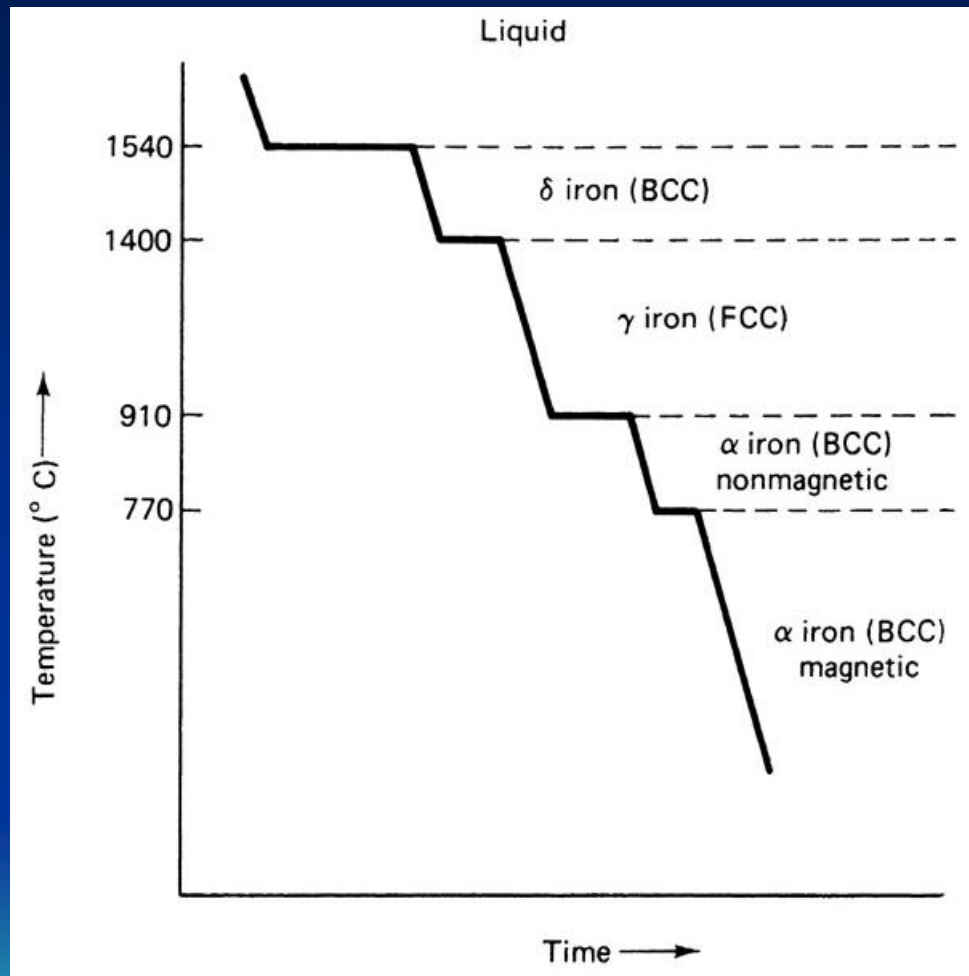

FIG. 3-50 (b) Cooling curve for pure iron.
FIG. 3-50 (1) Heat pure metal to point T_a ; (2) cooling of liquid metal $a - b$; (3) at point b , pure metal starts to *precipitate* out of solution; (4) point c , pure metal completely solid; curve from b to c straight horizontal line showing constant temperature T_{b-c} because thermal energy absorbed in change from liquid to solid; (5) more cooling of solid pure metal from c to d and temperature begins to fall again.
FIG. 3-50 (c) Cooling curve for a metal alloy: (1) The alloy A-B heated to point a (liquid phase, with both metals soluble in each other); (2) cooling of alloy in liquid phase; (3) point b , solidification begins; (4) point c , solidification complete; sloped $b - c$ due to changing from liquid to solid over the temperature range T_b to T_c because components A and B have different melting/cooling temperatures; (5) further cooling from c to d of solid-state metal alloy.